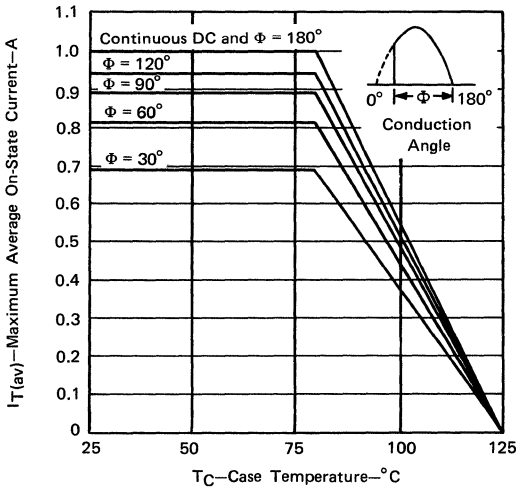

FIGURE 1
2. This value applies for continuous d-c operation with resistive load. Above 80°C derate according to Figure 1.
3. This value may be applied continuously under single-phase, 60-Hz, half-sine-wave operation with resistive load. Above 80°C derate according to Figure 1.